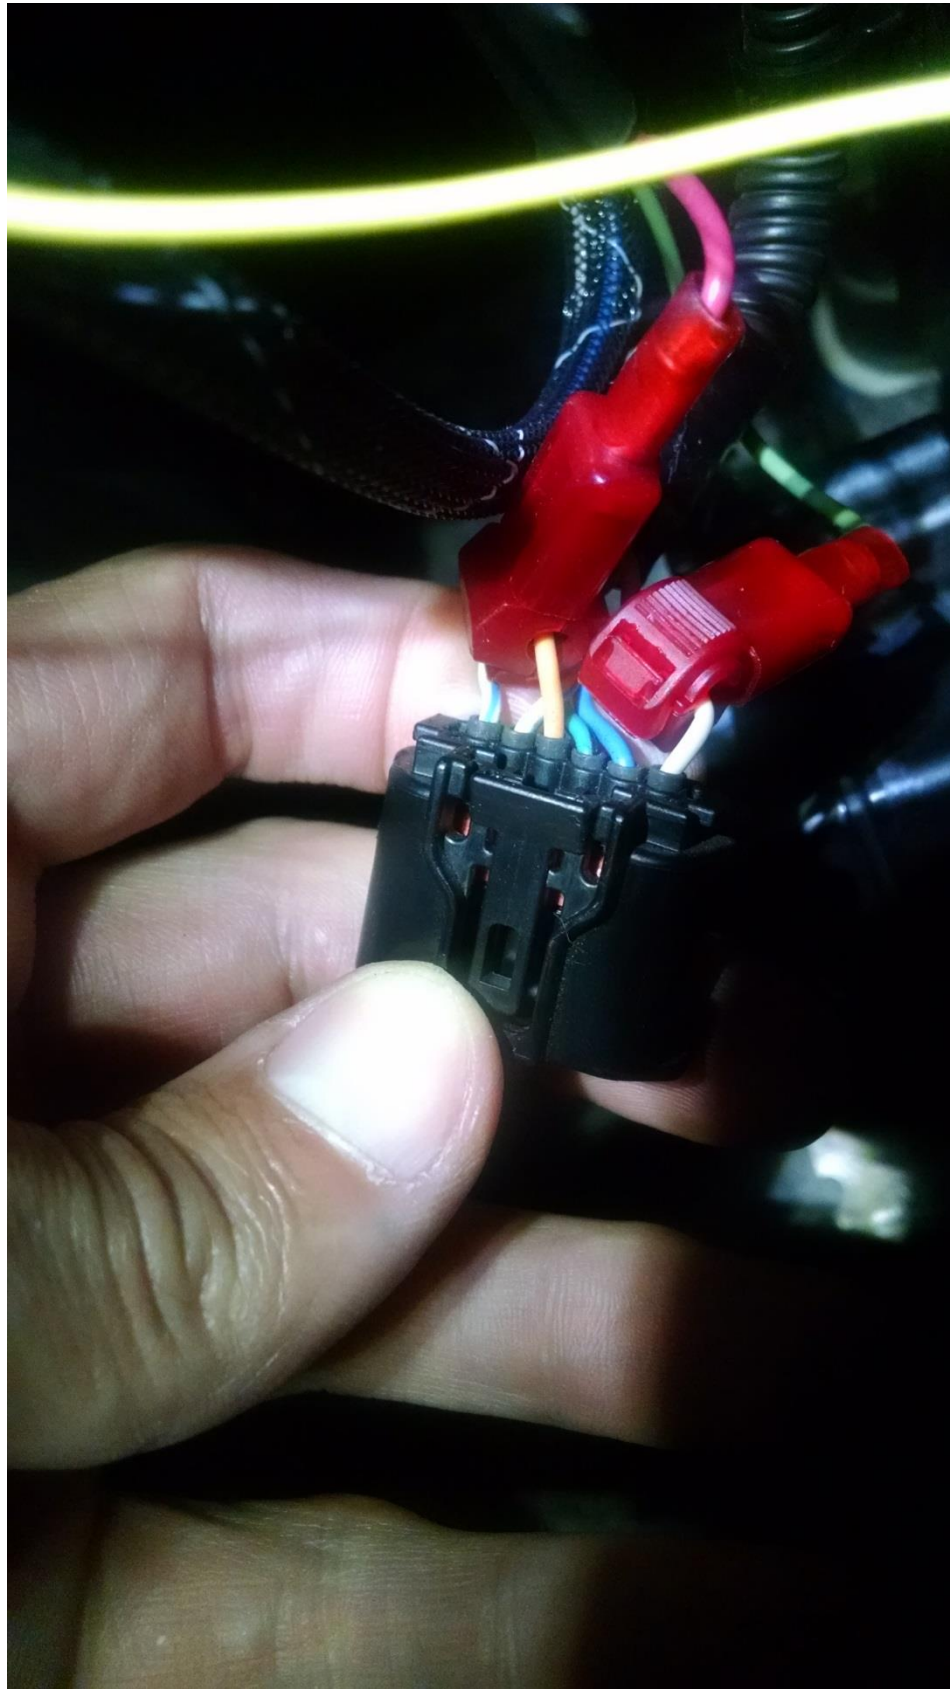

Figure 6 (Accelerator pedal position sensor (APPS) wire connections)
8. Connect *AUTO-BLiP* **red** wire to either the white or orange wire on the APPS (Figure 6)
9. Connect *AUTO-BLiP* green wire to the remainder white or orange wire on the APPS (Figure 6)